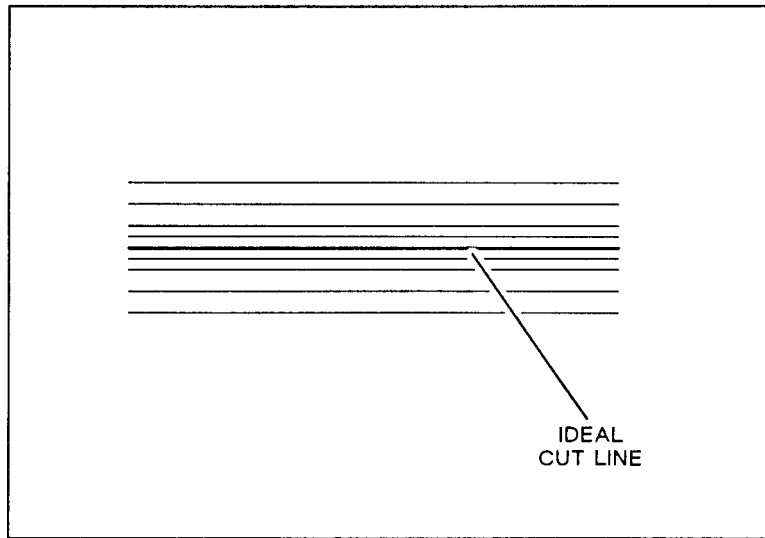

Figure 6-16. Cutter Test Pattern
- a. Turn the plotter OFF (O).
- e. Apply power and turn the plotter ON (I).
- g. The plotter will generate a cutter test pattern (see Figure 6-16), advance and cut the media at 90 mm (3.54 in.).
- j. Turn the plotter OFF (O).